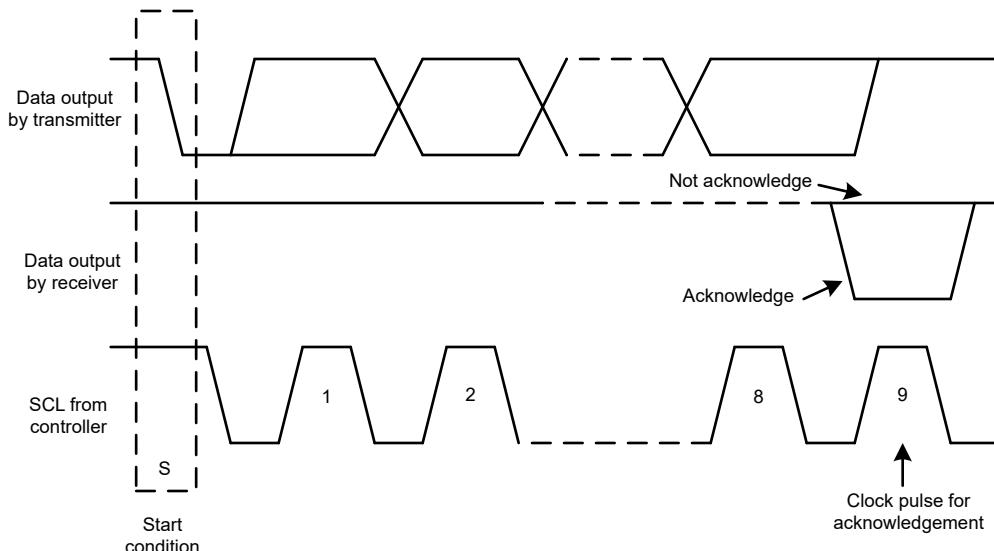
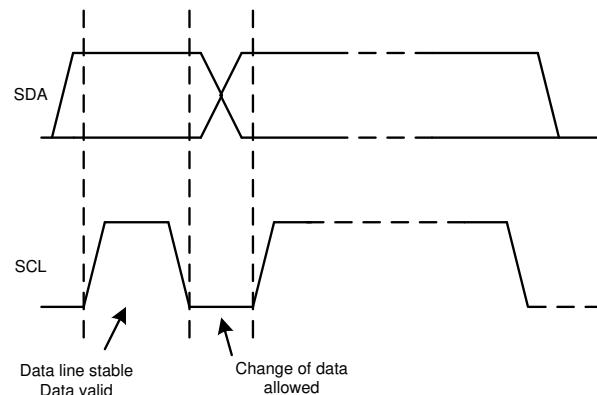

Figure 7-15. Acknowledge and Not Acknowledge on the I²C Bus
Figure 7-17. Bit Transfer on the I²C Bus
Other than specific timing signals, the I²C interface works with serial bytes. At the end of each byte, a ninth clock cycle generates and detects an acknowledge signal. An acknowledge is when the SDA line is pulled low during the high period of the ninth clock cycle. A not-acknowledge is when the SDA line is left high during the high period of the ninth clock cycle, as shown in Figure 7-15.
2. The controller then generates the SCL pulses, and transmits the 7-bit address and the read/write direction bit (R/W) on the SDA line. During all transmissions, the controller makes sure that data are valid. A valid data condition requires the SDA line to be stable during the entire high period of the clock pulse, as shown in Figure 7-17. All devices recognize the address sent by the controller and compare the address to the respective internal fixed address. Only the target device with a matching address generates an acknowledge by pulling the SDA line low during the entire high period of the 9th SCL cycle, as shown in Figure 7-15. When the controller detects this acknowledge, the communication link with a target has been established.